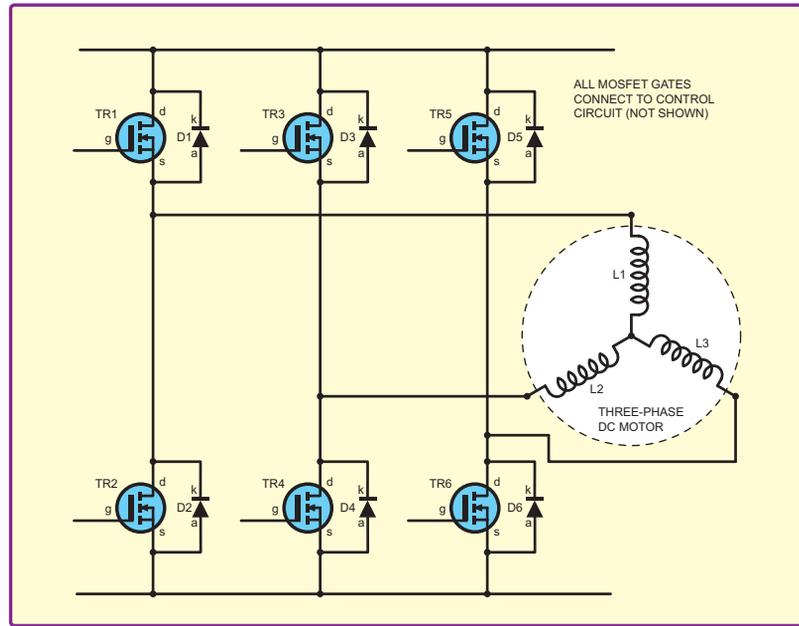

Fig.6. Three-phase brushless DC motor control power stage. This circuit can use MOSFET body diodes as freewheeling diodes
*Later on, the text says '... the reverse voltage spike from the inductor ...'. This is a common mistake: the voltage spike from the inductor in the circuit layout shown (Fig 6, page 57 Sept '08) is not a reverse voltage. Without the diode, the collector of the transistor experiences a high positive-going voltage when switching off; ie the same polarity as the normal supply voltage.*
The first example is the power stage of a typical 3-phase brushless DC motor control, the schematic for which is shown in Fig.6. Typically such systems will use six-step control of the motor and so have